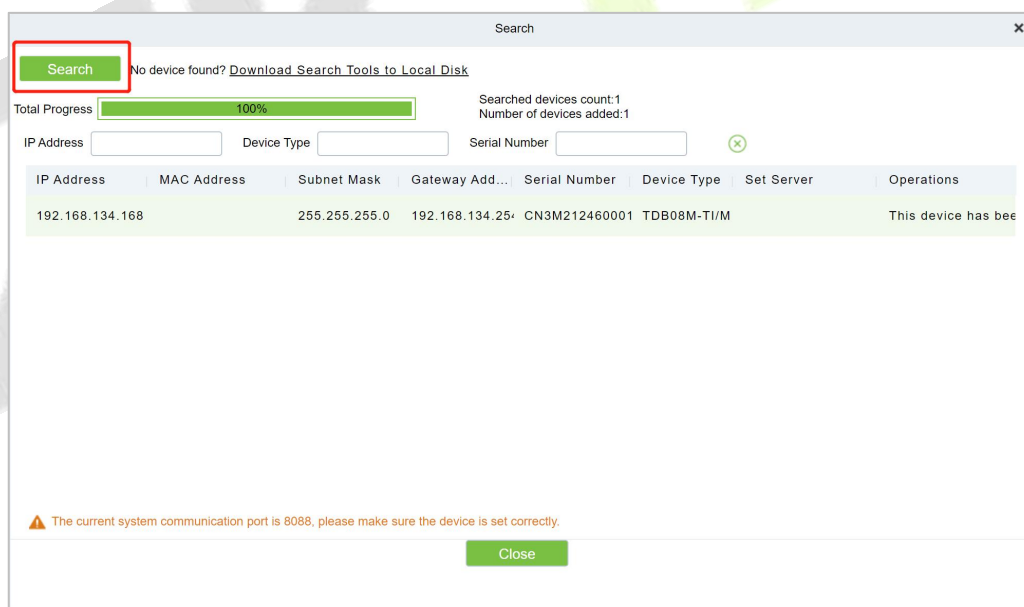

Figure 17-1 Device Search and Add Interface
Step 3: Click "**Start Search**" in the search box to display the **Access Devices** that can be added, as shown in Figure 17-1.